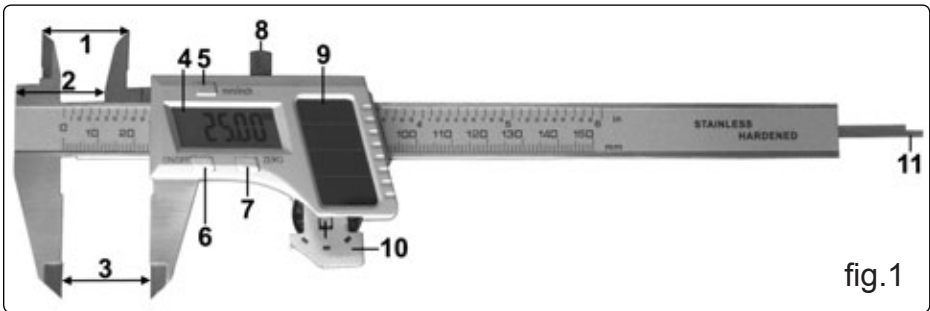

fig. 1
4.1 Switch off and then remove battery holder (fig.1) by sliding outwards, remove the battery holder and flip over as in fig.2.
4.2 Remove exhausted battery and fit replacement with positive facing downwards, see fig.3. Flip battery holder over and slide holder back into the calliper, see fig.1.